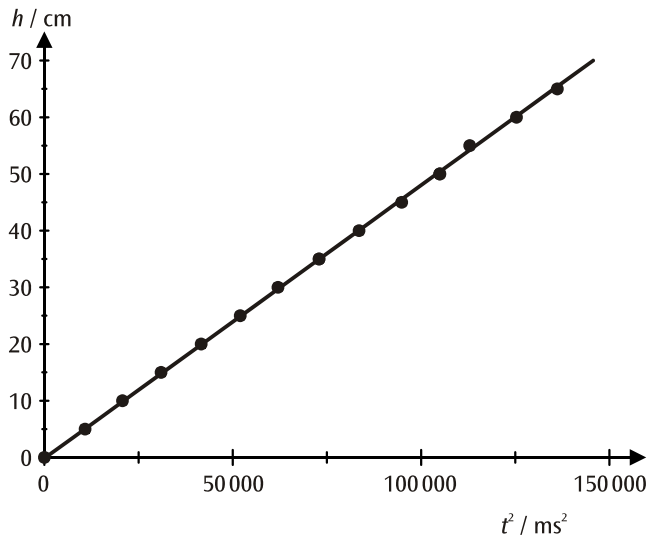

Fig. 4: Fall distance as a function of the square of the fall time
b) Linearisation by plotting the fall distance as a function of the square of the fall time (see Fig. 4):